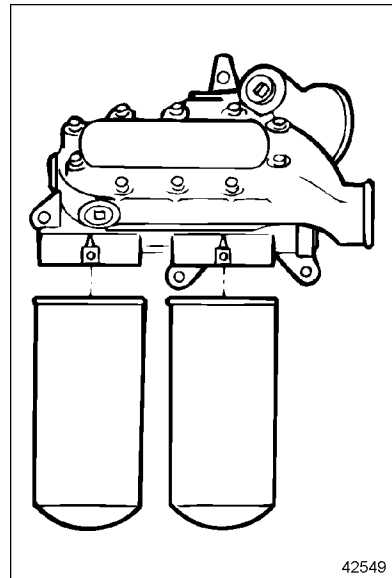

Figure 24 Spin-On Oil Filters
2. Remove spin-on filters using tool J-29917, or equivalent, and a 1/2-inch drive socket wrench and extension. See Figure 24.